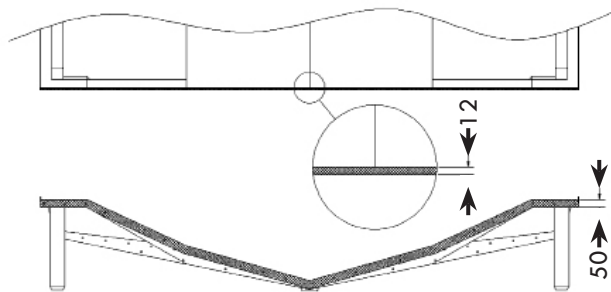

Figure 6. Abrading of basin halves
2. Prepare the joint. Use Acetone and a scraper to clean the faces of the joint to remove smears or deposits of fiberglass release agent, loose paints or filler materials such as Plasticine. Abrade the mating faces of the basin to at least 50mm from the corner. Clean and abrade the corners. Clean and abrade 12mm of the exposed edges of the basin adjacent to the joint (see Fig 6). Note that the key area for sealing and gluing is regarded as the 50mm part of the joint closest to the water.